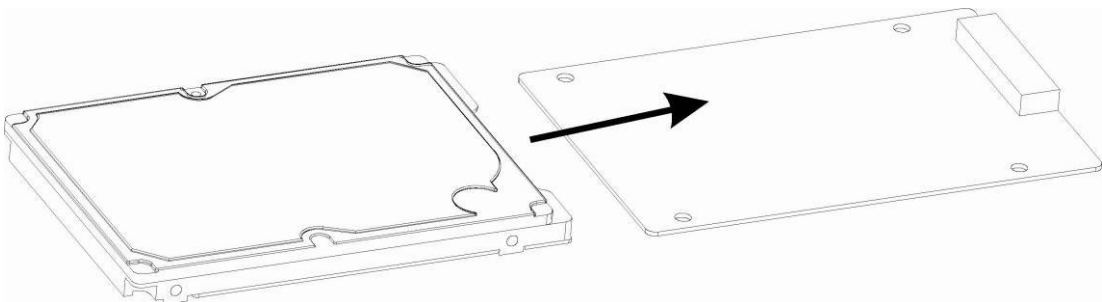

Figure 3-4
4) Take HDD PCB and HDD and follow the direction shown as in Figure 3-4 to insert.